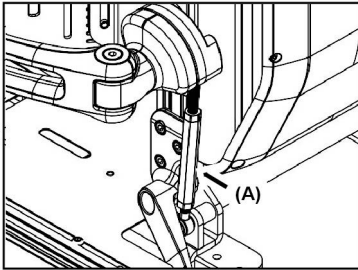

Fig B1-1
(1) Position (A), use the hexagonal open-end wrench to adjust the upward and downward angles of the armrest assembly. (Fig B1-1)